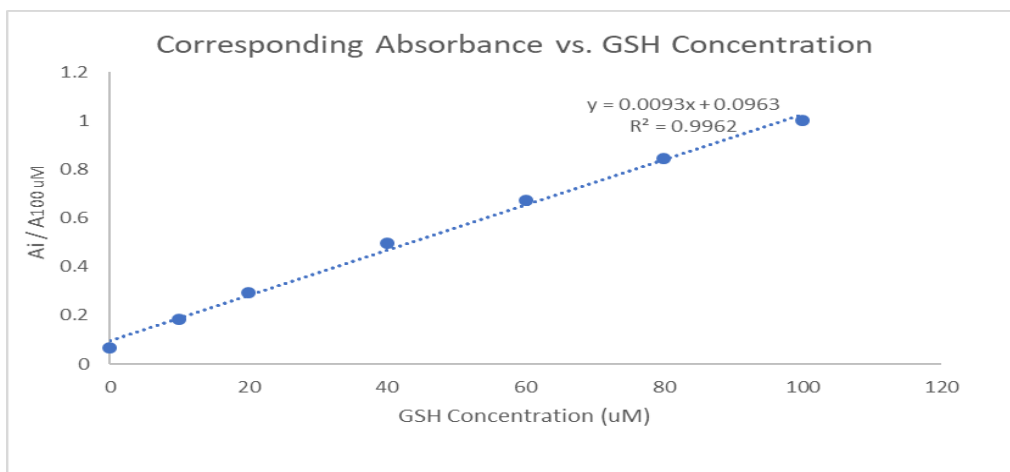

Figure 1: Example of standard curve obtained at 400 nm at 25°C.
A least-squares linear regression should demonstrate that the absorbance at 400 nm (A) is a linear function of GSH concentration. The apparent molar extinction coefficient, ϵ , of the measured product is equal to the slope of the corresponding straight line. An example of a standard curve obtained at 400 nm is shown in Figure 1.